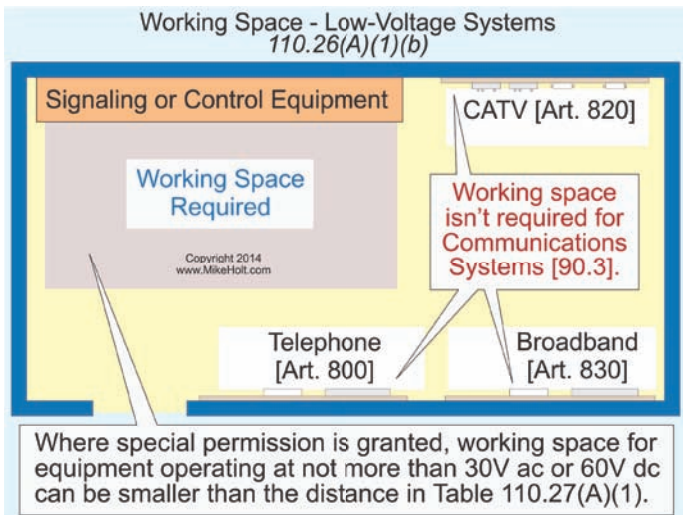

Figure 110-12
**(b) Low Voltage.** If special permission is granted in accordance with 90.4, working space for equipment that operates at not more than 30V ac or 60V dc can be less than the distance in Table 110.26(A)(1). **Figure 110-12**